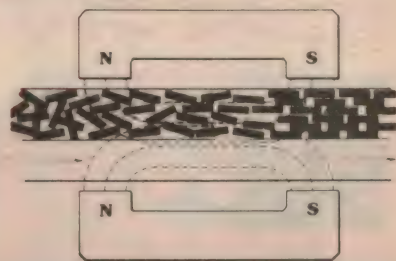

Fig. 12
4. Utilization of a "highly-orientable" magnetic oxide particle in the formulation—HOP (Fig. 12).